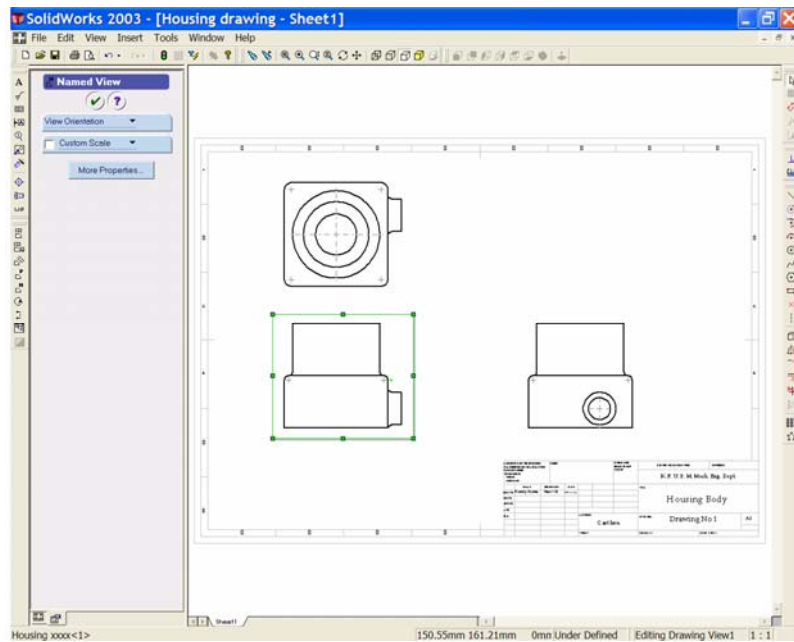

Figure 18
19. Now bring the cursor close to the **ELEVATION** (the front view) and activate its window. Place the cursor on any part of the green window, **click and hold the left button once more.** See Figure 18. Now, when we move the **ELEVATION** all three views will move together. Note also that we can move the orthographic group of views to any location on the screen. Re-position the views so that they do not overlap the drawing border or the title block area. Left click anywhere in the drawing area to end the command.